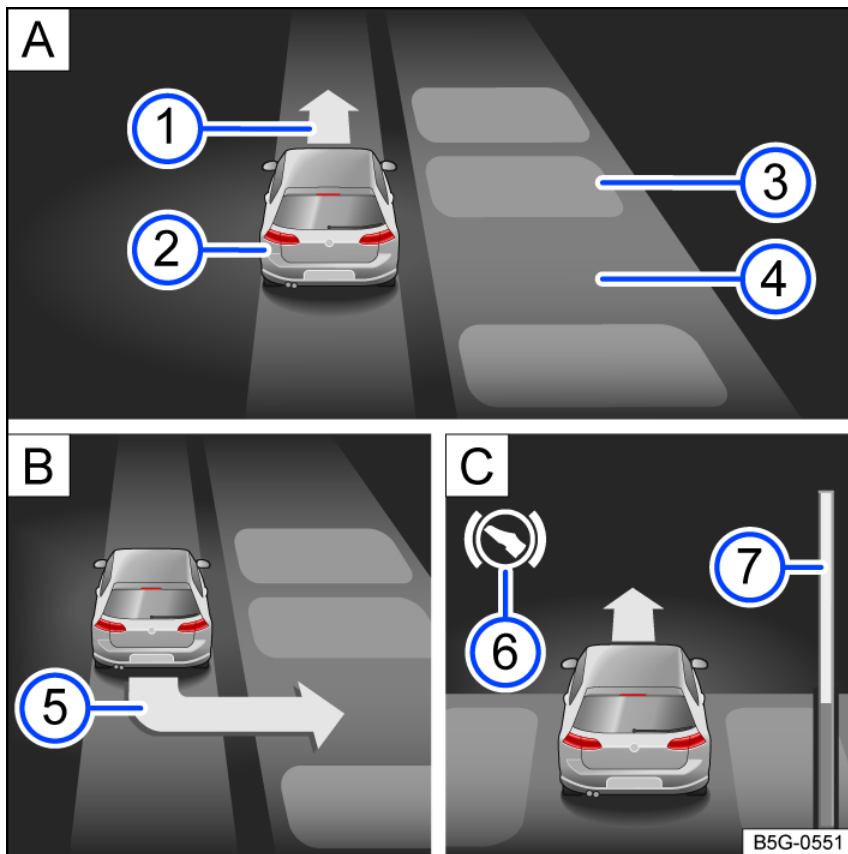

Fig. 144 In the instrument cluster display: parking perpendicular to the road.
- ① Prompt to drive forward.
- ② Your vehicle.
- ③ Parking vehicle or obstacle.
- ④ Detected parking space.
- ⑤ Request to drive backwards.
- ⑥ Request to brake.
- ⑦ Progress bar (relative distance remaining).
2. Pay attention to the prompt for parking in the instrument cluster display fig. 144 ⑤.